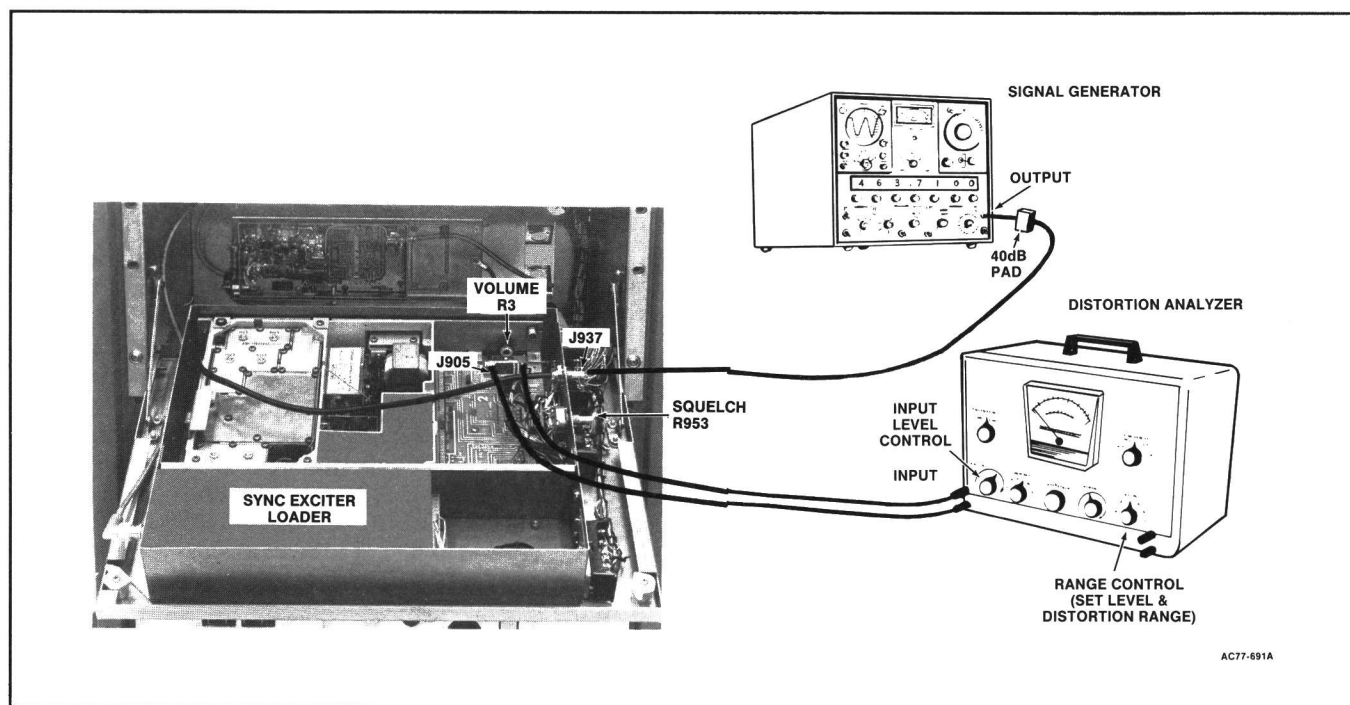

Figure 7 - Test Equipment Hook-up
1. Connect the test equipment to the receiver shown in Figure 7 for all steps of the Receiver Test Procedure.
Connect an 8 ohm, 15 watt load resistor from J905-1 to J902-2 on the System Jack. Connect the Distortion Analyzer input across the resistor as shown in Figure 7.